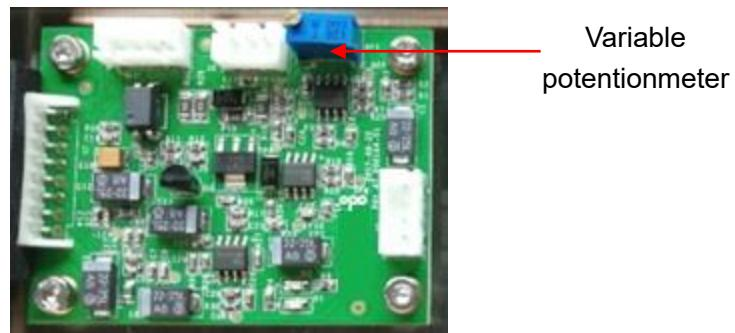

Figure 6-11 Optical driver board
The optical driver board is used for providing stable driving current for the laser to keep a full and stable laser output power, as shown in Figure 6-11. If the optical driver board is determined to be faulty, it is possible to remove and replace it from the optical system.
- ♦ If the standard particle CV meets the requirement, but the CG position is too low or too high, slightly adjust the variable resistor on the optical driver board as shown in Figure 6-11, until the CG position meets the requirement. After maintenance according to this procedure, a gain calibration in accordance with Section 4.5 shall be performed on the optical system.